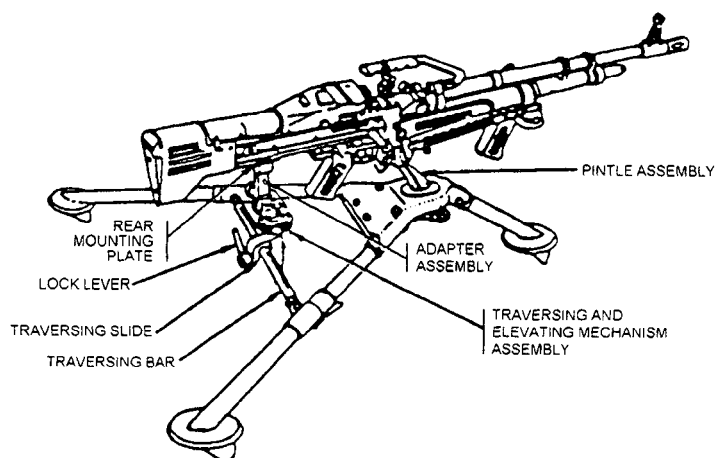

Figure 13-13.—Gun in relation to the tripod.
To mount the gun, (1) lock the pintle and platform group into the pintle bushing, as shown in figure 13-13;